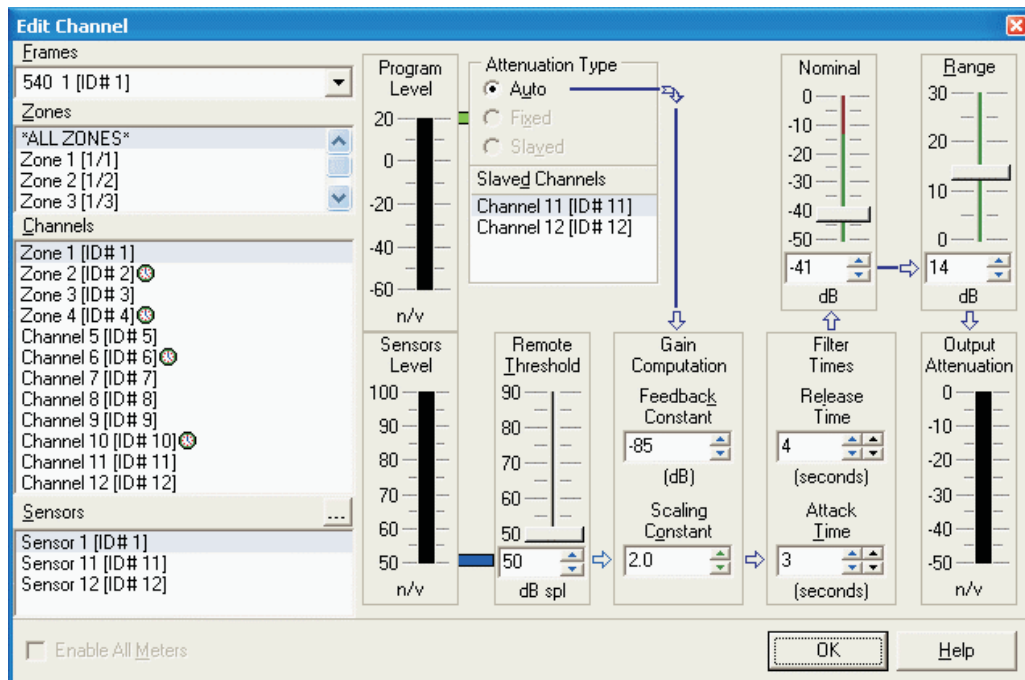

Figure 29 - Edit Channel, Offline
- **Auto mode with slaved channels** accepts an input from one or more ambient noise sensors and compensates the signal level accordingly. See Figure 29. Note: While on the same channel, if the type was “auto” mode, then this program will remember the last assigned sensors. If the user has not moved off of the same channel and decides to go back to “auto” mode, then those last assigned sensors will automatically be reloaded.